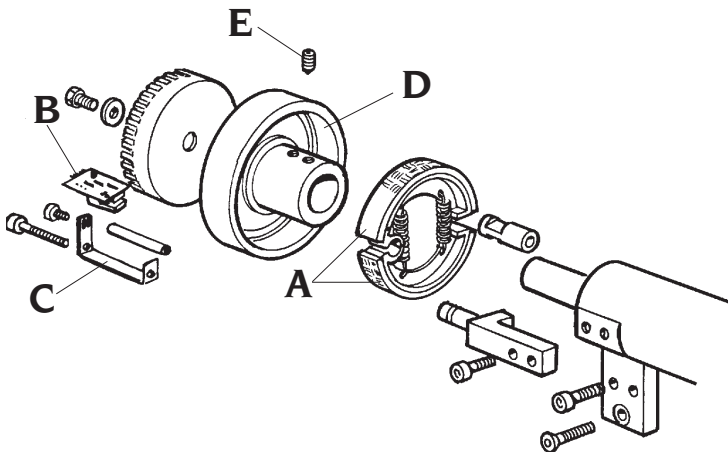

Fig.4
- Remove the search circuit board (B, fig. 4) from the supporting brake (C, fig. 4).
- Remove the pulley (D, fig. 4), unscrewing the two fixing dowels (E, fig. 4).
- Remove the brake shoes (A, fig. 4);